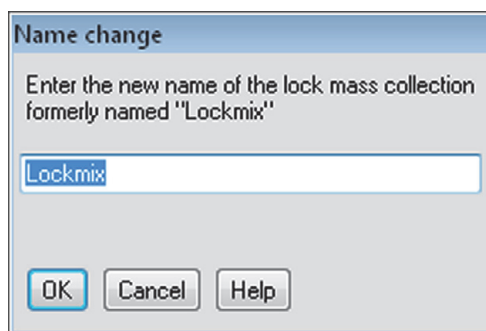

Figure 5-5. Changing the name of a lock mass collection
2. Click the  button. The Name Change dialog box is displayed. See Figure 5-5.